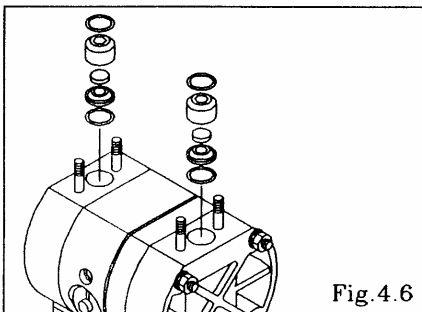

Fig.4.6
- Remove the O ring, valve stopper, flat valve and valve seat. [Fig.4.6]